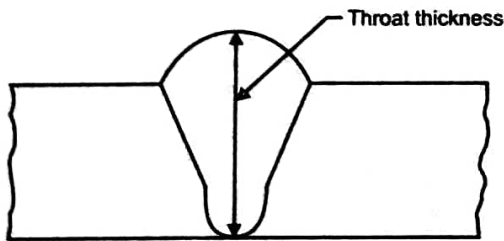

Fig. 5.49. Throat thickness
**Throat Thickness :** It is the actual distance from the root to the face of the weld. (Fig. 5.49).